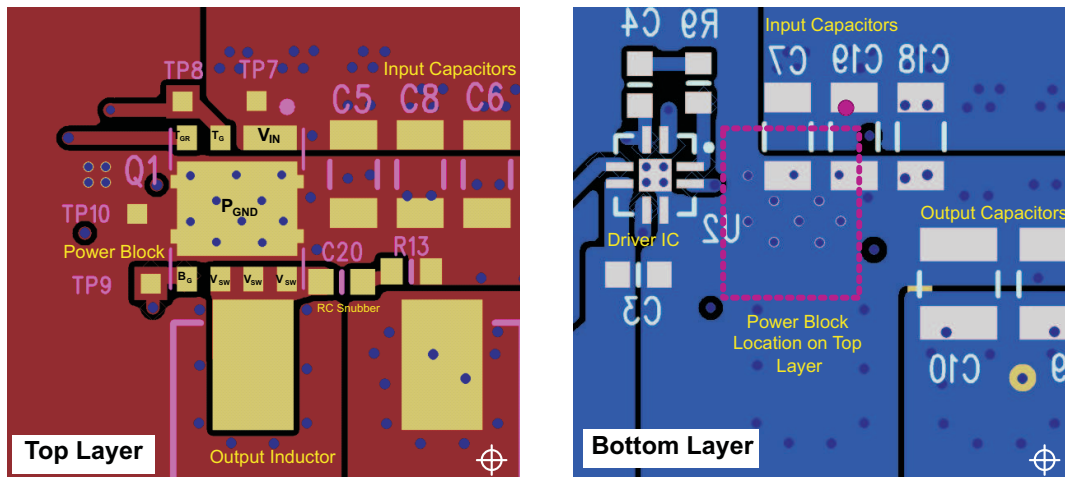

Figure 35. Recommended PCB Layout (Top Down View)
- The placement of the input capacitors relative to the power block's VIN and PGND pins should have the highest priority during the component placement routine. It is critical to minimize these node lengths. As such, ceramic input capacitors need to be placed as close as possible to the VIN and PGND pins (see Figure 35). The example in Figure 35 uses 6 × 10-μF ceramic capacitors (TDK Part # C3216X5R1C106KT or equivalent). Notice there are ceramic capacitors on both sides of the board with an appropriate amount of vias interconnecting both layers. In terms of priority of placement next to the power block, C5, C7, C19, and C8 should follow in order.
- The switching node of the output inductor should be placed relatively close to the power block VSW pins. Minimizing the node length between these two components will reduce the PCB conduction losses and actually reduce the switching noise level. In the event the switch node waveform exhibits ringing that reaches undesirable levels, the use of a boost resistor or RC snubber can be an effective way to easily reduce the peak ring level. The recommended boost resistor value will range between 1 Ω to 4.7 Ω depending on the output characteristics of driver IC used in conjunction with the power block. The RC snubber values can range from 0.5 Ω to 2.2 Ω for the R and 330 pF to 2200 pF for the C. Please refer to TI App Note Snubber Circuits: Theory, Design and Application (SLUP100) for more details on how to properly tune the RC snubber values. The RC snubber should be placed as close as possible to the VSW node and PGND see Figure 35 ⁽¹⁾
- Use the smallest drill size allowed in your design. The example in Figure 35 uses vias with a 10-mil drill hole and a 16-mil capture pad.